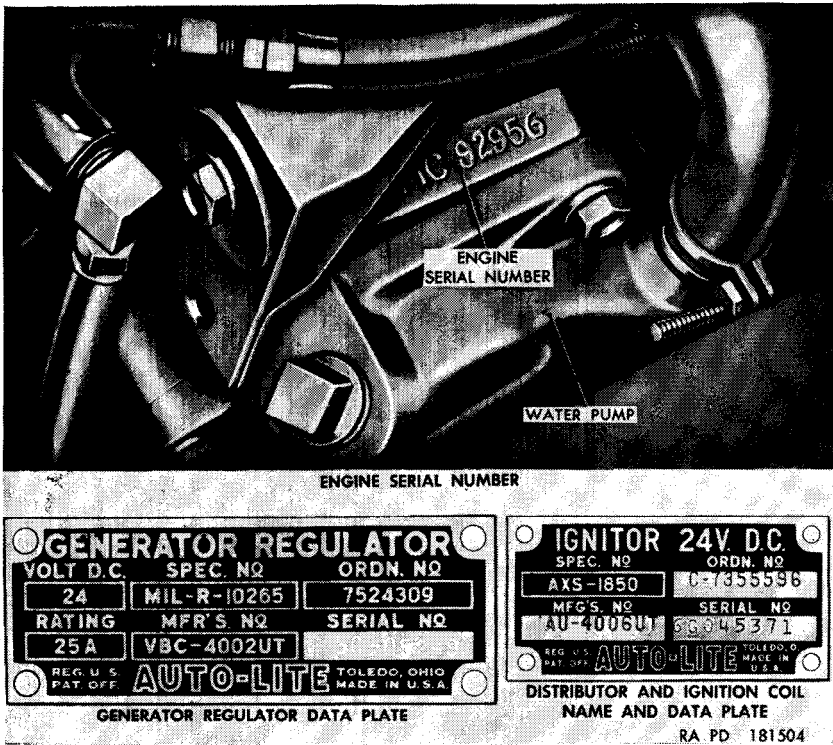

Figure 6. Data plates and engine serial number location.
- (5) *Distributor and ignition coil assembly name and data plate* (fig. 6). The distributor and ignition coil assembly name and data plate is located on the right side of distributor and ignition coil assembly. The plate includes manufacturer's name, model number, and voltage data.
- (8) *Generator regulator data plate* (fig. 6). The generator regulator data plate is located on the left side of the generator regulator base. The plate gives data on voltage rating, capacity and serial, model, and ordnance numbers.
- (1) *Engine serial number* (fig. 6). The engine serial number is stamped on the engine cylinder block behind the water pump and below the thermostat housing at the front of the engine.
- (5) *Generator regulator name*. The generator regulator name is stamped on the top of the generator regulator cover.
- (6) *Front axle shaft identification plate* (fig. 6). This plate is held by two of the screws securing the steering knuckle oil seal assembly, and identifies the type of joint used in the front axle.